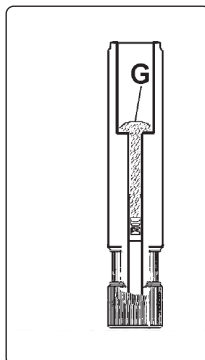
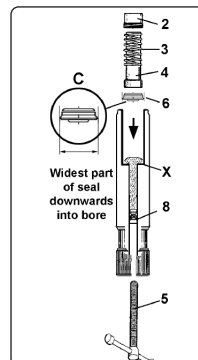

fig.6
fig.7
- 6.3.6. Pour 15gm of oil into the bore (fig.6). Insert the larger seal (fig.7.6) as shown, with the widest part of the seal facing downwards into the bore. Push down into main cylinder as far as 'X' (fig.7) followed by piston (fig.7.4) and spring (fig.7.3).